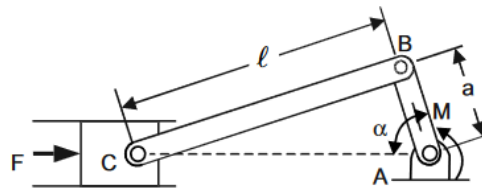

Figure 3
- 3) Figure 3 shows a crank shaft mechanism where a couple M is applied to the crank AB to maintain the equilibrium of the system. The force applied to the system is F . Write a MATLAB program to plot the ratio of M/F as a function of crank angle α from 0 to 180 degrees. Given $a = 50$ mm and $A = 150$ mm. Determine the value of crank angle α for which the ratio M/F is maximum and the corresponding value of M/F .